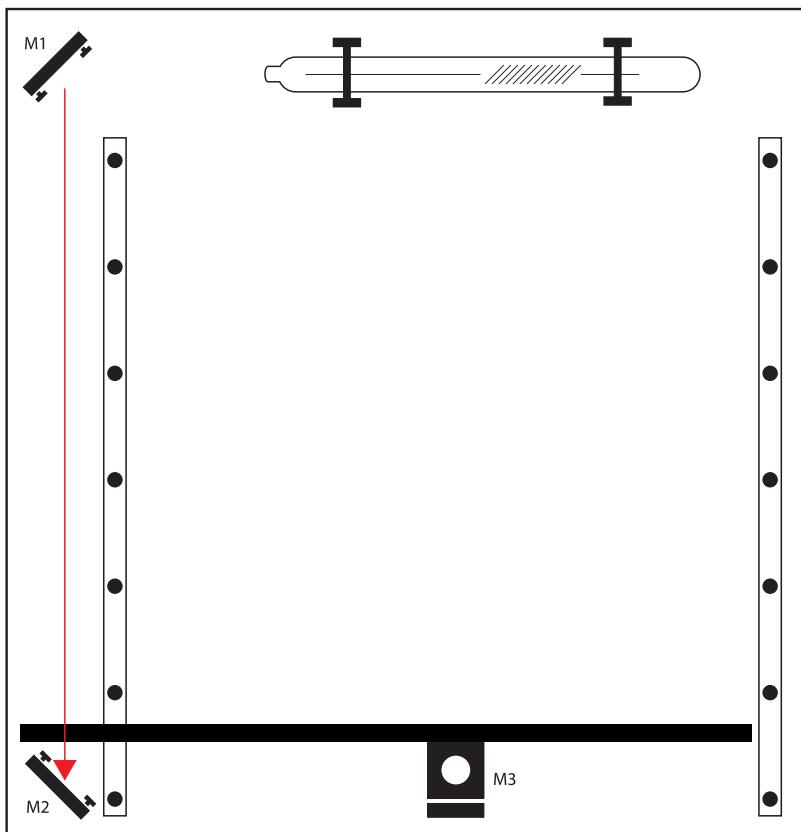

Figure 4.8
3. Position X-Gantry “Far”: Jog the x-gantry to the lowest position (as shown in Figure 4.8).
8. Re-Position X-Gantry back to “Far”: Jog the x-gantry to the far position where you did the first test fire. (as shown in Figure 4.8).